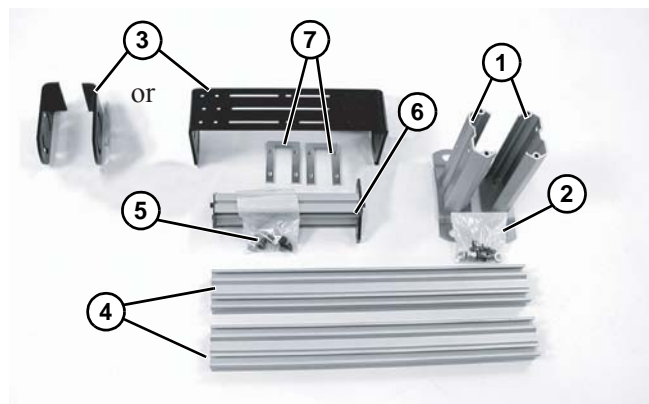

Figure 2
Typical Components (Figure 2):
1. Open standard stand hardware pack (Figure 2, item 2).